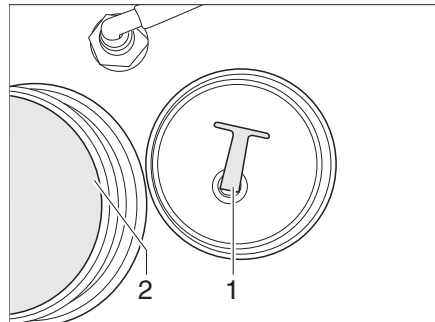

Fig. 145 Water tank
- Unscrew the cap (Fig. 145,2).
- Unscrew the cap (Fig. 145,2) on the water tank.
- Screw out the stopper (Fig. 145,1) from the drainage opening. The water drains off.